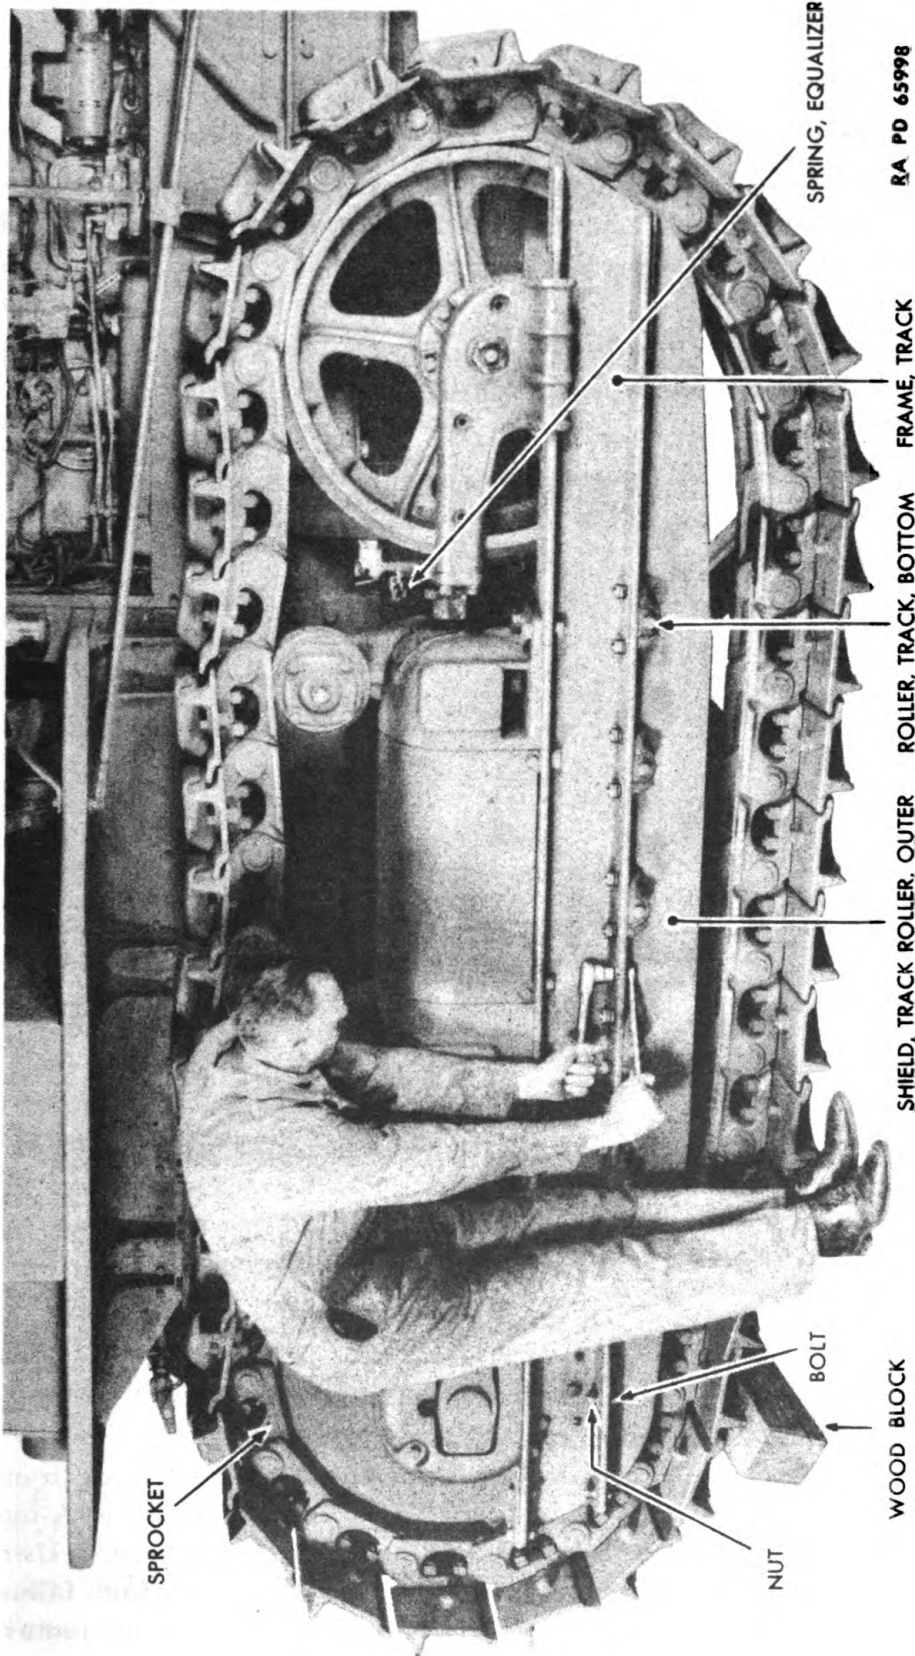

Figure 140 — Track Roller Shield Removal
(3) REMOVE TRACK ROLLER SHIELDS (fig. 140).